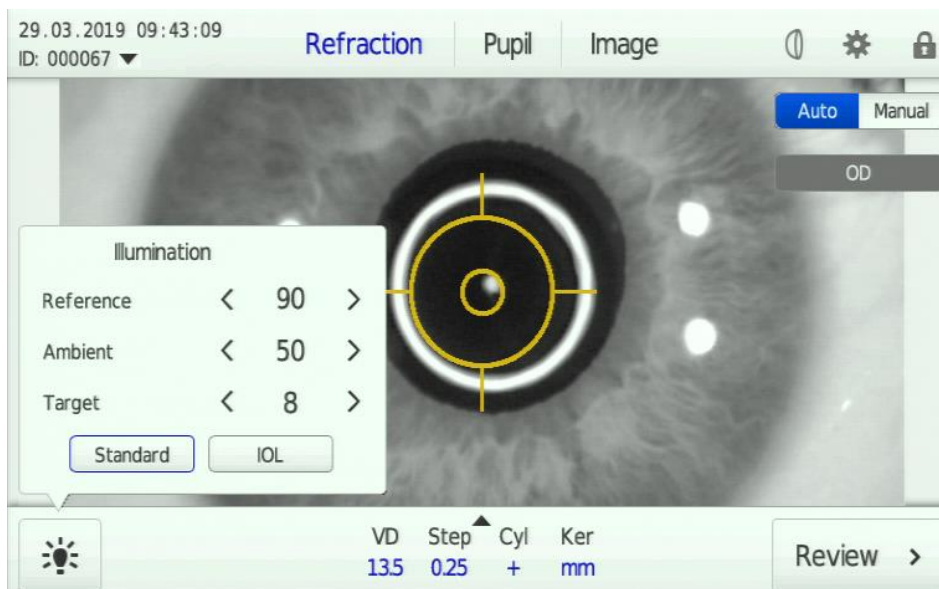

Fig. 28 Pop-up window with unfolded illumination parameters
Tap the **Illumination** button (Fig. 28) to configure the illumination parameters. A pop-up window will open where you can set each parameter to your specific needs.
- Beside these user-defined settings, you can also return to the pre-set illumination modes by selecting **Standard** or **IOL** (Table 4). If you use one of the pre-set modes, the illumination parameters are displayed in grey (Fig. 28).